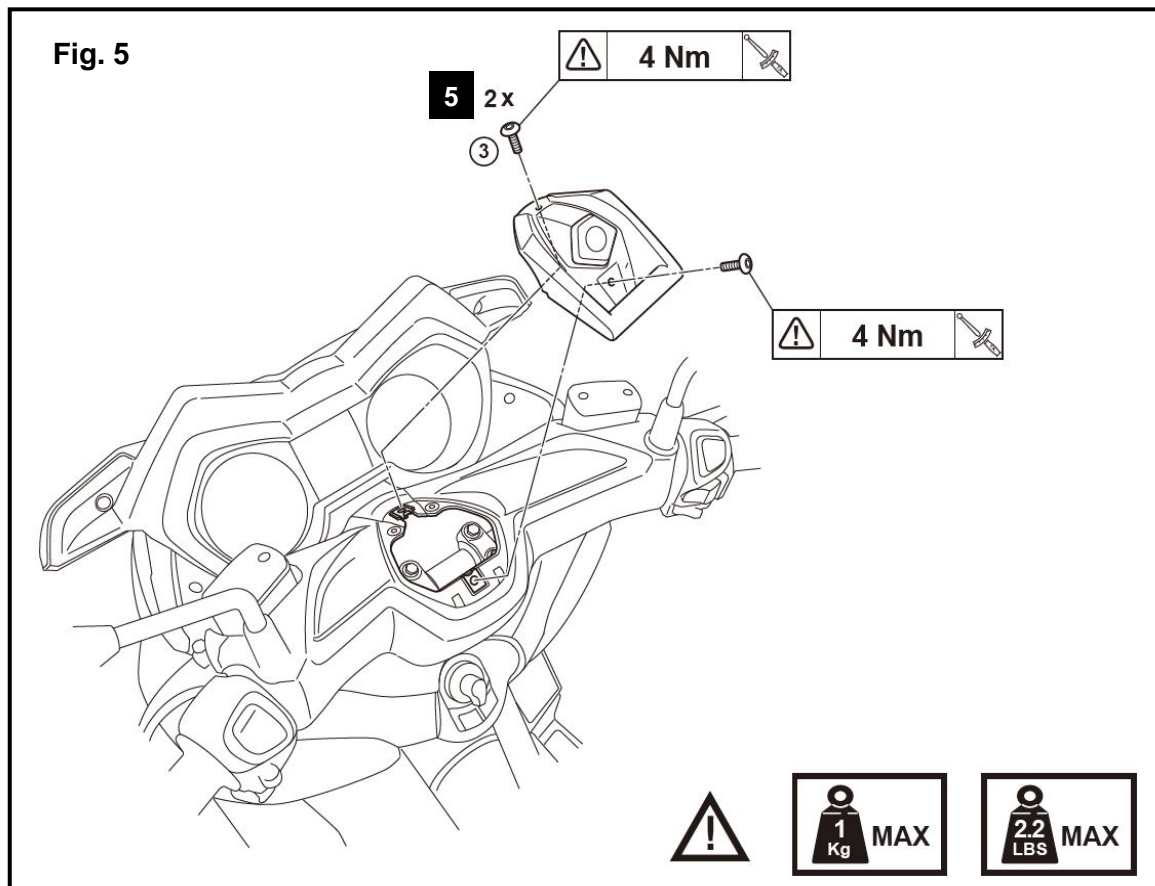

Fig. 6
- 6 Remove the stock button head screws on left and right side of the front fairing as shown in Fig. 6.
- 7 Remove one stock plastic rivet to free the left side cover. Retain rivet for reuse. See Fig. 6
- 8 Remove the front fairing. Remove the trim pieces that surround the mirrors by pulling on the outboard edges. See Fig. 6.